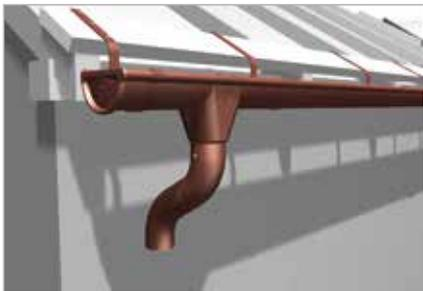

Fig. 31
4.1 If the roof is equipped with eaves, connect the outlet to the downpipe using two elbows and a section of the downpipe cut to the required length (**Fig. 31**).